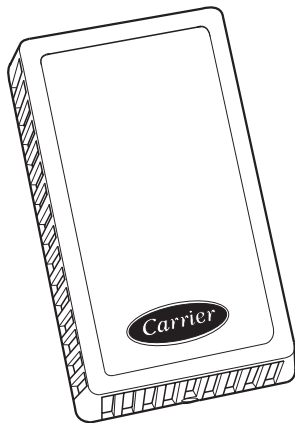

Fig. 5 — Space Humidity Sensor (P/N HL39ZZ001)
RELATIVE HUMIDITY (RH) SENSORS — The accessory field-installed RH sensors measure relative humidity of the air within the occupied space, in the return-air ductwork and/or in the outdoor air hood. The RH sensors provide input signals to the PSIO-2 (control options) module. There are two types of RH sensors available, wall-mounted or duct-mounted. Humidity sensors require separate and isolated 24-vac power source(s). See Fig. 5.